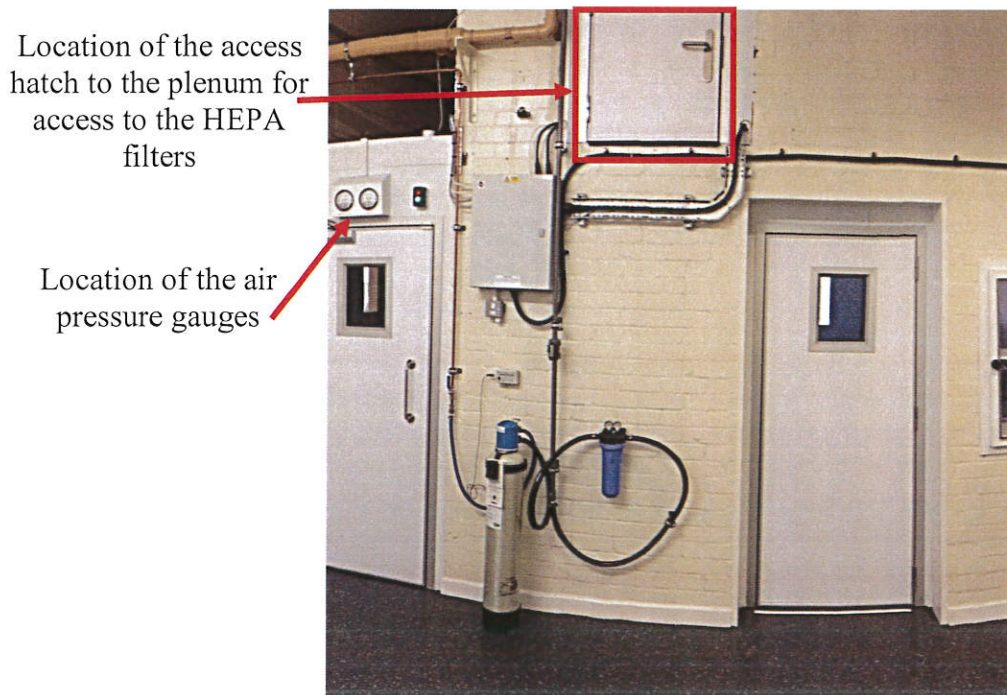

Figure 1: Location of the access to the plenum.
6.1.1. The adjustment of the fan speeds will effect the pressure difference between the clean room, the gowning room and the ambient air pressure measured on the mezzanine, this is displayed on the air pressure gauges shown in Figure 1: the gauges must show the change room pressure with a minimum level of 5Pa (target 10Pa) and the clean room with a pressure difference to the change room of more than 5Pa. The pressure difference between the clean room and the change room is adjusted by use of the louvers in the door between the two rooms.
6.2.1. **Open the Access Hatch.** Open the access hatch, as shown in Figure 1: